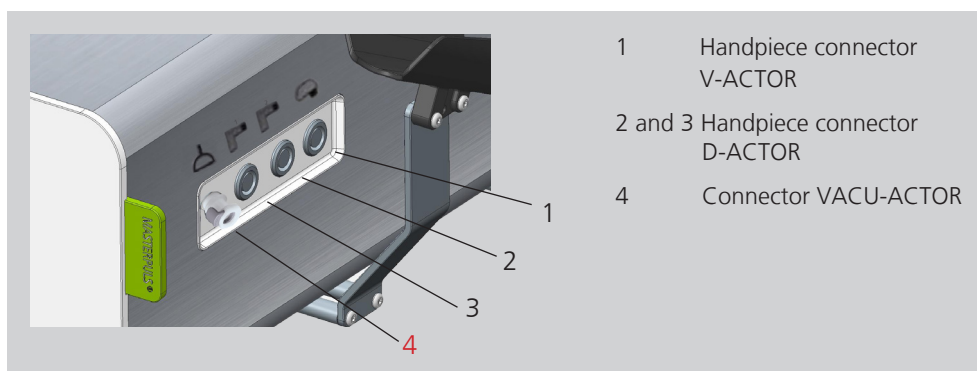

Fig. 3-8 Connectors of the Handpieces and VACU-ACTOR
- Insert the coupling of the shorter hose part into the connection clutch on the right side of the D-ACTOR 200 (Fig. 3-8 / 4).